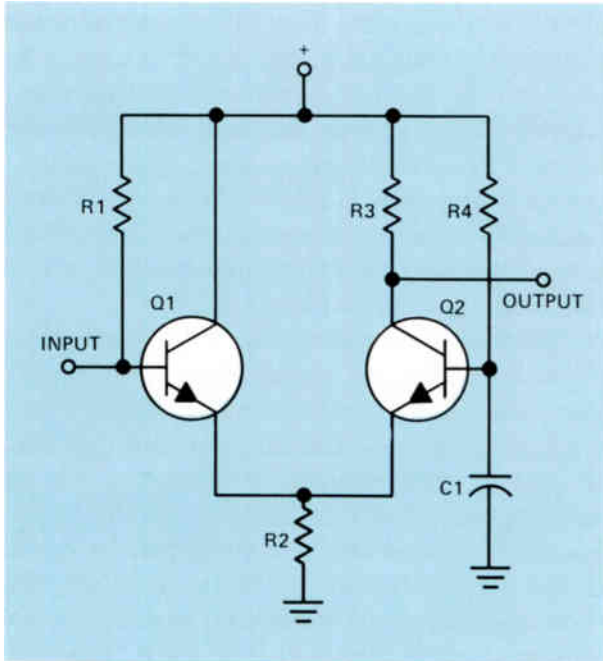
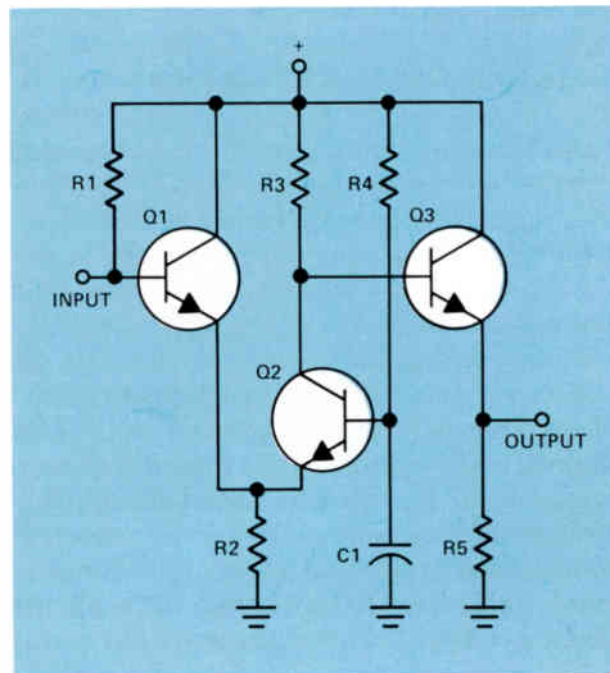

Figure 12. Modified differential amplifier circuit.
Figure 14. A differential amplifier and an emitter-follower stage.
When used in ICs, the basic differential amplifier circuit is usually modified as shown in Fig.12. Notice that the collector of Q1 is brought directly back to the positive power supply. The base of Q2 is operated at signal ground potential by bypassing it to ground through C1. The term *signal ground potential* simply means that insofar as any input signal is concerned, the base of Q2 is connected directly to ground. The reactance of C1 is so low that insofar as a signal is concerned, the base of Q2 is connected directly to ground.
second differential amplifier can be used. However, in both Figs.12 and 13, the dc output voltage at the collector of Q2 is considerably higher than the base voltage at the input of Q1. Therefore, rather than trying to direct-couple the second differential amplifier, an emitter-follower stage is used between the two to get the dc voltage down to a lower level. Then, a second differential amplifier can be driven quite conveniently.
The circuit used to lower the dc level is shown in Fig.14. Notice that in this circuit, Q1 and Q2 form a differential amplifier that is identical to the circuit shown in Fig.12. The output from Q2 is coupled directly to the base of Q3, and the output signal is taken from the emitter of Q3. By controlling the characteristics of Q3 and the size of R5, we can obtain the correct dc voltage at the emitter of Q3 to correctly bias the base of the first stage of a second differential amplifier.
Very high gain can be obtained by using two, three, or more cascaded stages, as shown in Fig.14. If three differential amplifiers with an emitter-follower output are used in an integrated circuit, and each differential amplifier and emitter follower provides a gain of 10, the total gain of the three cascaded stages will be $10 \times 10 \times 10 = 1000$. It is relatively easy to obtain a gain of 10 in each differential amplifier and emitter-follower stage of this type.
- 5 In the differential amplifier shown in Fig.12, will the output signal be in phase or 180° out of phase with the input signal?
- 7 What purpose does Q3 serve in the circuit shown in Fig.14?